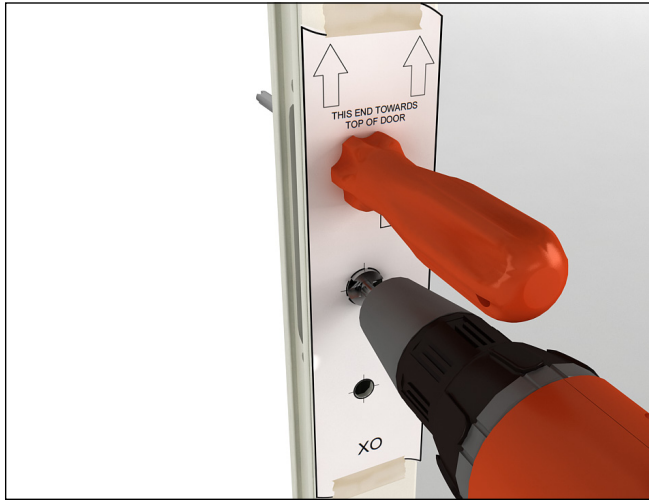
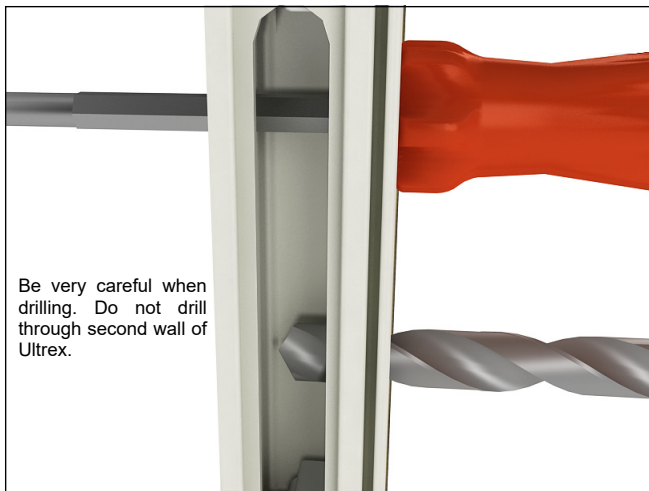

Figure 5
Figure 6
7. Drill out the pilot hole with the 5/8" drill bit (through the Ultrex wall and backer wall) without going through the second wall of Ultrex. See figure 5 and figure 6.